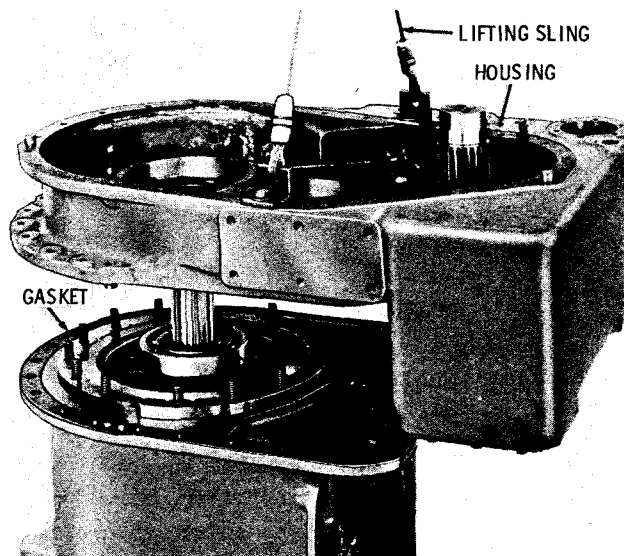

Fig. 5-92. Removing transfer gear housing from transmission housing
(15) Remove 27 transfer gear housing bolts and lockwashers. Using a lifting sling, remove the transfer gear housing (fig. 5-92). Remove the gasket. Refer to paragraph 6-38 for rebuild of the transfer housing.
(16) Complete the disassembly of the transmission, by following the procedures outlined in paragraph 5-3h(10) through 5-3j(7), omitting 5-3h(11).